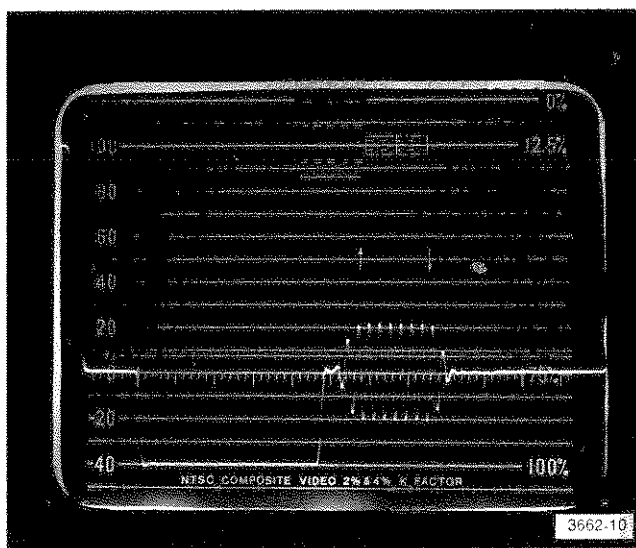

Fig. 2-8. Display of a 10-step modulated staircase signal with the RESPONSE switch set to FLAT and the SWEEP switch set to 1 μ s/DIV.
16. Set the VARIABLE (VOLTS FULL SCALE) control to CAL, the RESPONSE switch to FLAT, and the SWEEP switch to 1 μ s/DIV. A magnified display of the vertical blanking interval should be obtained. Set the POSITION controls as necessary for best viewing. A typical display is shown in Fig. 2-8.